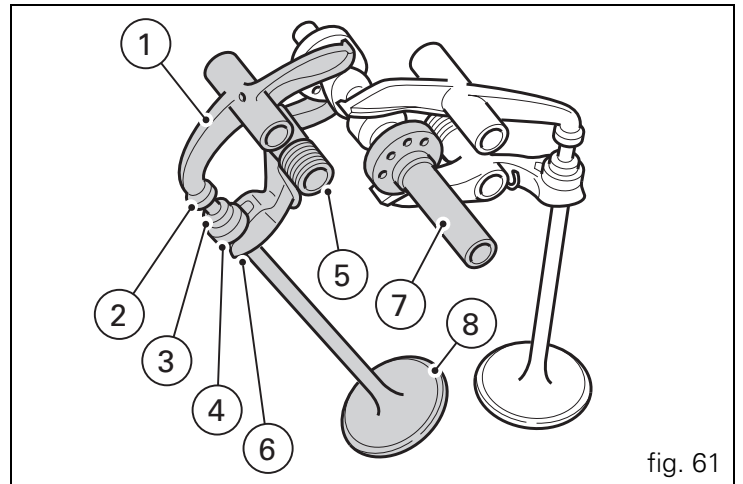

fig. 61
**Desmodromic timing system** (fig. 61)